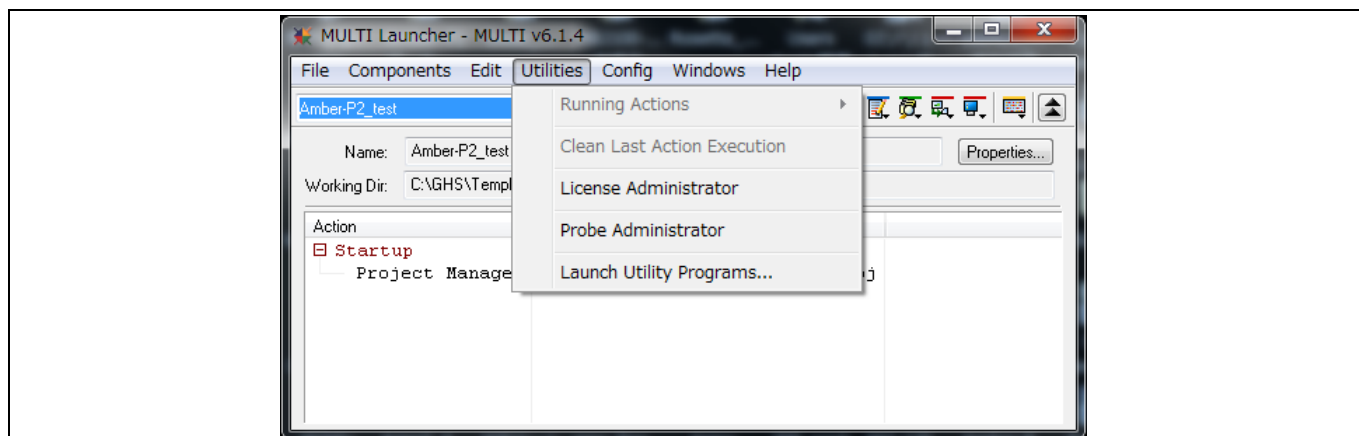

Figure 6 Probe administrator option
2. Click the **Utilities** tab and choose **Probe Administrator**, as shown in Figure 6.